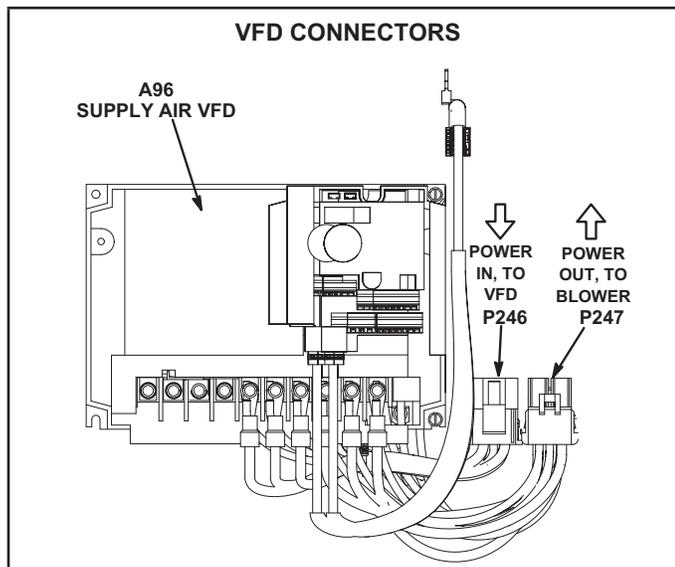

FIGURE 24
- 2 - Locate P246 and P247 connectors near the VFD. See FIGURE 24.